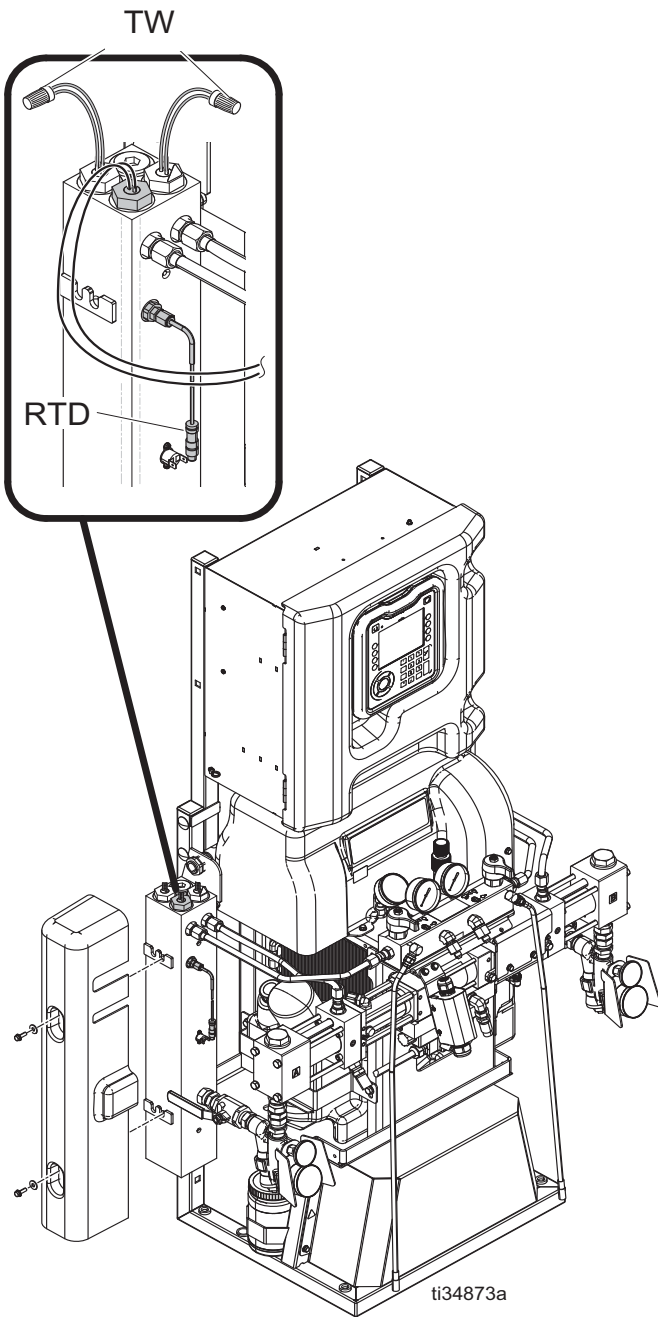
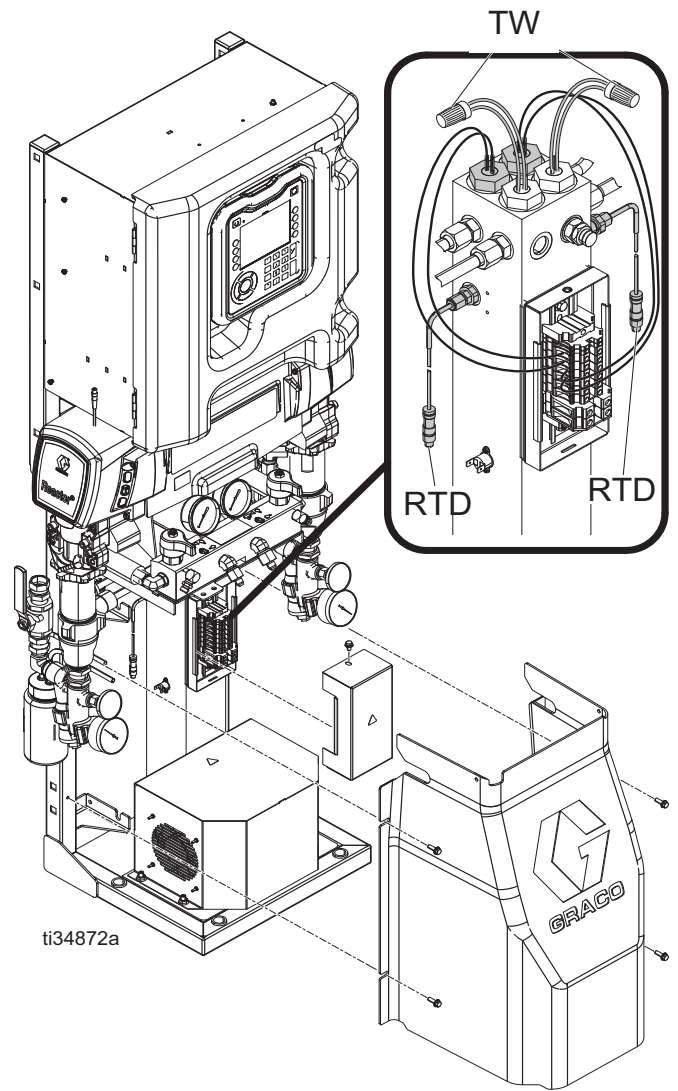

FIG. 19: Hydraulic Reactor Heater Rods (A-side)
FIG. 20: Electric Reactor Heater Rods
3. Leave the heater rod wire pair nearest to the A-side and B-side RTDs connected. Disconnect all other heater rod wire pairs from the Reactor 2. See FIG. 19 and FIG. 20.